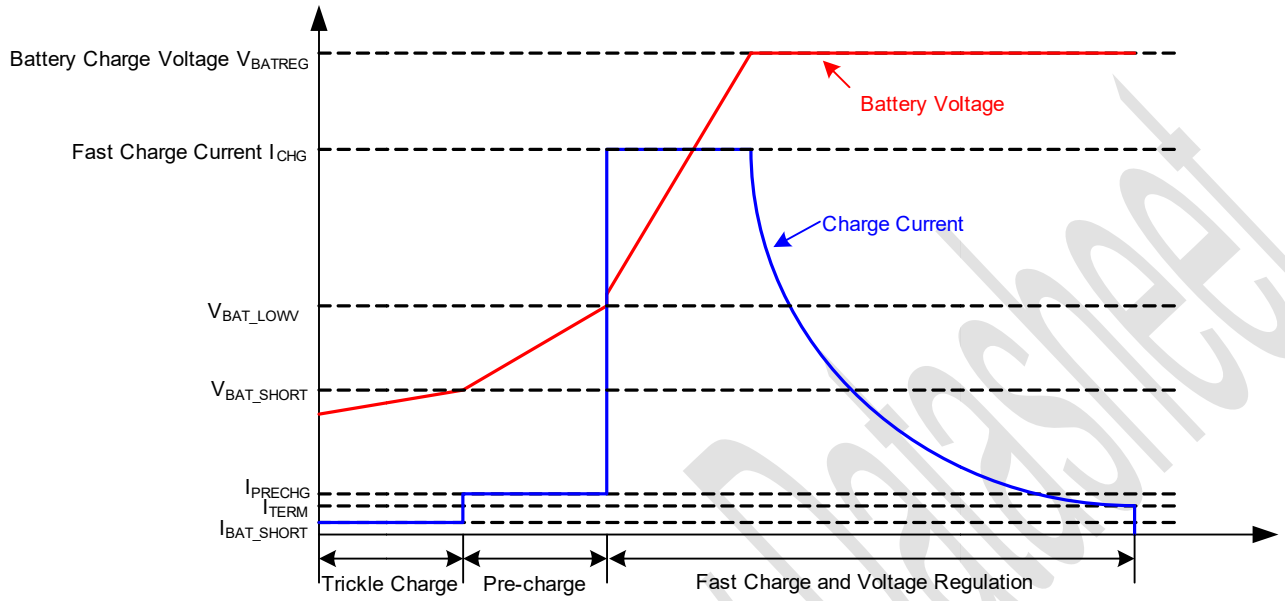

Figure 7. Battery Charge Profile
In Charge Mode as shown in the table of Device Functional Mode, the devices charge the battery in four sub-charge-modes: trickle charge, pre-charge, Constant Current (CC) charge and Constant Voltage (CV) charge as shown in Figure 7. If the battery voltage falls below $V_{BAT_SHORT_FALL}$, the battery charge battery with trickle charge current I_{BAT_SHORT} , when the battery voltage rises above $V_{BAT_SHORT_RISE}$ and below $V_{BAT_LOWV_RISE}$, the charger charges battery in precharge mode with charge current at I_{PRECHG} . Fast charge starts once battery voltage rises above $V_{BAT_LOWV_RISE}$. When battery voltage is close to battery charge voltage V_{BATREG} , the charger goes into CV mode and charge current starts to decrease. When charge current decreases below termination current I_{TERM} , charge is terminated and charge cycle ends. Following charge termination, if the battery voltage follows below $(V_{BATREG} - V_{RECHG_HYS})$, a new charge cycle restarts.